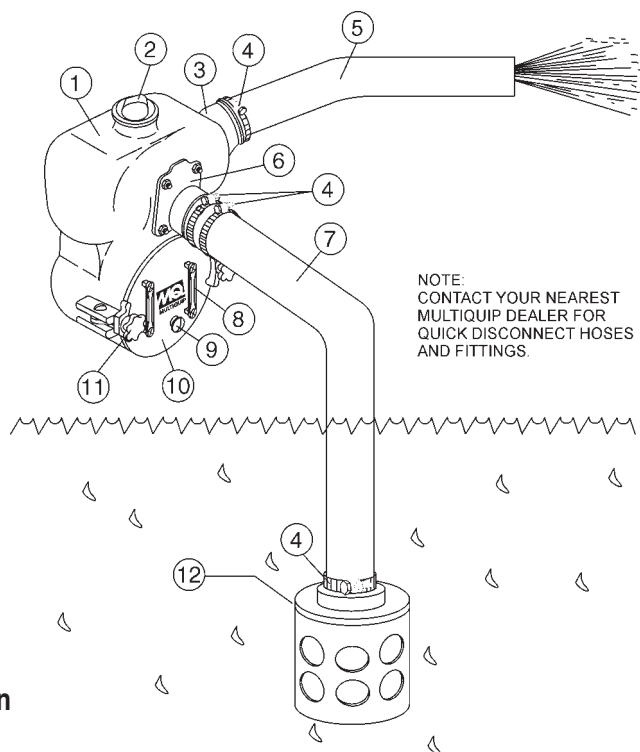

Figure 2. QP-40TE Pump Application
Figure 2 shows a typical application using the QP-40TE Trash pump. Please note that this pump is intended for the removal of clean water and water containing some debris and solids. Maximum size of solids should not exceed 2 inches (50 mm) in diameter. **DO NOT** set strainer on bottom of water bed. Placing the strainer above the water bed will prevent the pump from drawing in excessive amounts of sand and foreign debris.
3. To prime pump, remove fill cap (Figure 2) and fill pump casing with water. If the pump casing is not filled with water before starting, it will not begin pumping.
6. Make sure the **suction strainer** (Figure 2) is clean and securely attached to the water end of the suction hose. The strainer is designed to protect the pump by preventing large objects from being pulled into the pump.
1. Check that all hoses are **securely** attached to the pump. Make certain suction hose (Figure 2) does not have any air leakage. Tighten hose clamps and couplings as required.
4. Check that the **discharge** hose (Figure 2) is not restricted. Place hose so that it lays as straight as it is possible on the ground. Remove any twists or sharp bends from hose which may block the flow of water.